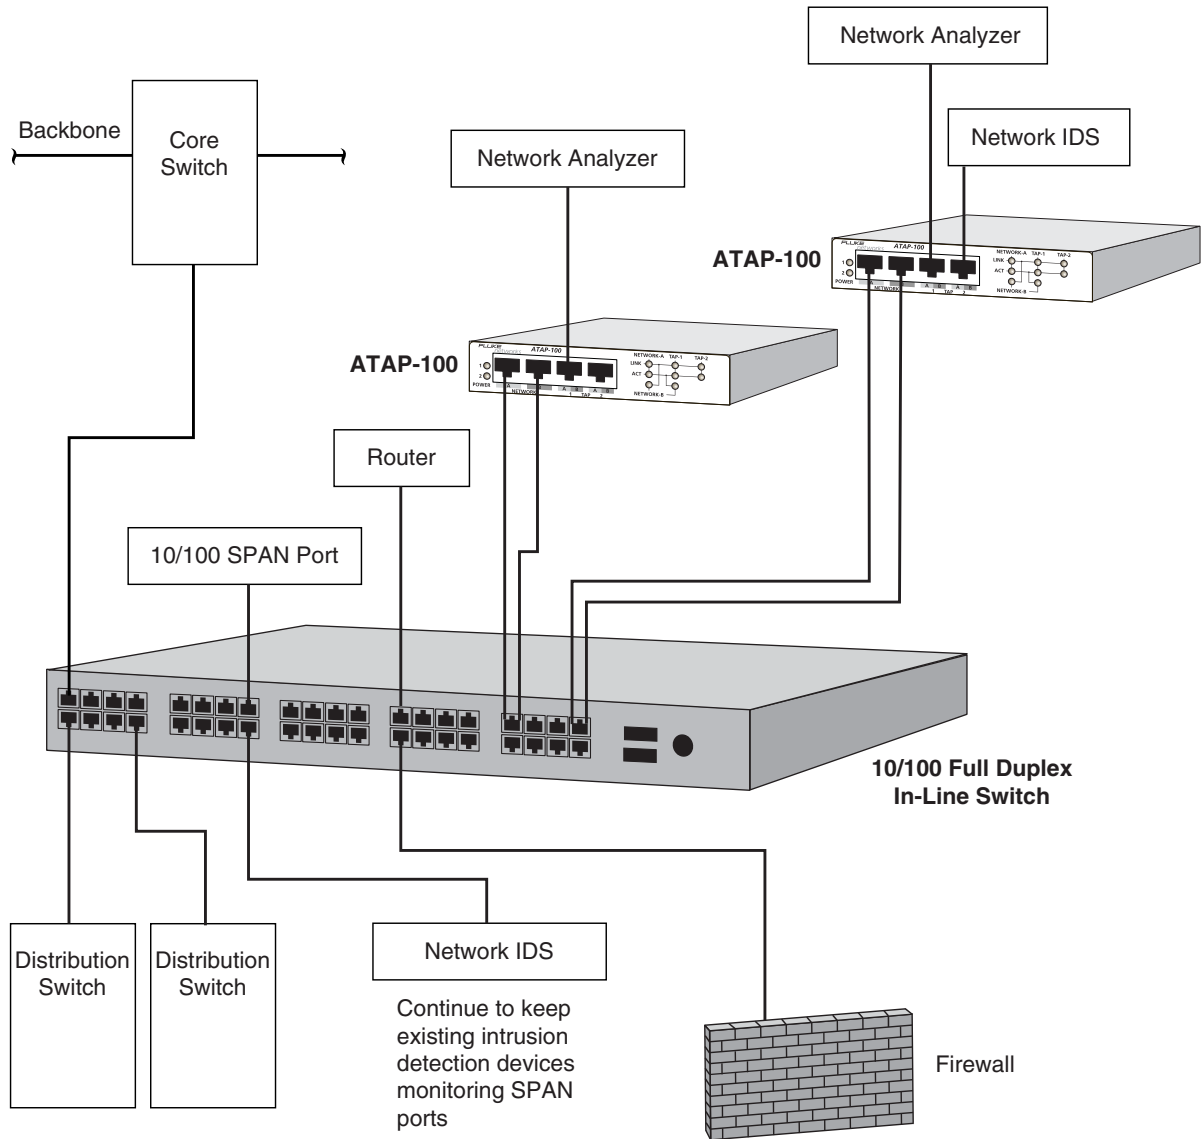

Figure 3. Two ATAP-100 Link Aggregating In-Line Taps connected to a STAP-100-2X16 Copper Span Tap
**Figure 3** shows two ATAP-100 Link Aggregating In-Line Taps connected to a TAP-100-2X16 switch. Move either network analyzer in and out of any of the sixteen tapped links for non-intrusive and roving, full-duplex analysis. Alternately, you may permanently leave in-line the second analyzer and intrusion detection device on any of the TAP-100-2X16 ports for 24x7 full-duplex analysis and monitoring.